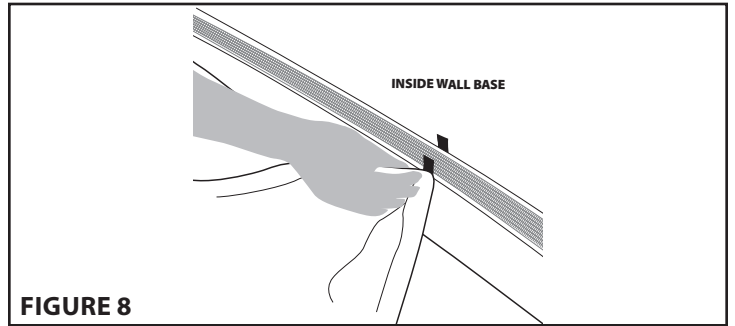

FIGURE 8
3. Start at the center of each wall using the colored aligning tabs as guides. Press the hook and loop strips together, working towards the corners. [**SEE FIGURE 8**]